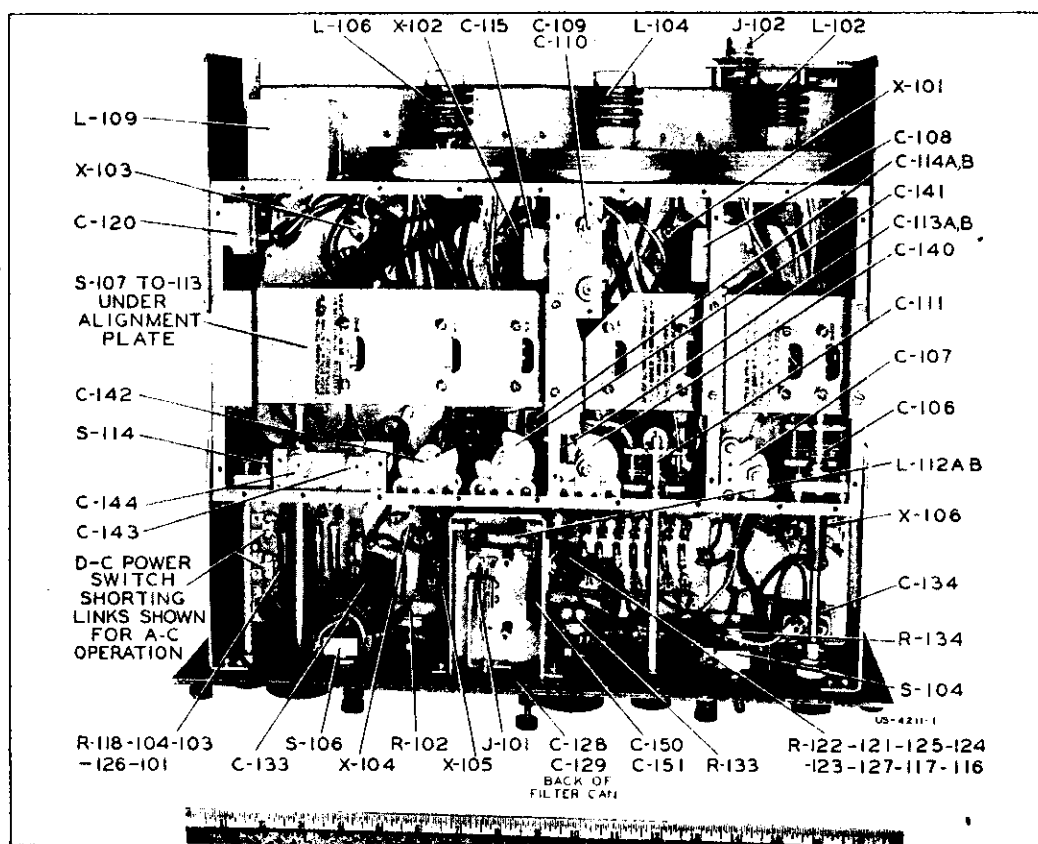

Figure 6—Receiver Unit CRV-46155 (Bottom View of Chassis—Covers Removed)
9.4-8 Normally, the a-c power is controlled either from the control unit or the power unit. In addition, a d-c power "On-Off" switch is provided on the receiver panel for use only in the event the receiver in an emergency is operated on batteries. *If this switch is opened when the receiver is normally operated on a.c., the load is removed from the power unit and overloading and damage of certain of its parts may result.* For this reason, shorting links are provided behind the panel (see Figure 6) which permanently close this switch circuit. If it is desired in an emergency to operate the receiver on batteries, these links should be opened.
- 9 7-2 A filter assembly connected to the output jack J101 and consisting of coils L112A and L112B and by-pass capacitors C150 and C151 eliminates signal pick-up on the phone leads. The shield around the phone jack prevents direct radiation from the jack itself. See Figure 6.
- 10.1-17 "D.C. POWER OFF-ON" Switch: This switch is not used in the normal operation of this equipment and is accordingly wired out of the circuit by short-circuiting links located under the chassis (see Figure 6).
NOTE: HOWEVER, SHOULD OCCASION ARISE, THIS EQUIPMENT MAY BE OPERATED FROM A BATTERY SUPPLY CONSISTING OF SUITABLE FILAMENT AND PLATE BATTERIES. THIS METHOD OF OPERATION WILL REQUIRE OPENING OF THE SHORT-CIRCUITING LINKS (SEE FIGURES 6 AND 19) AND CONNECTION OF CABLE W-201, AS INDICATED BY THE DOTTED LINES IN FIGURE 15. OPERATION OF THE RECEIVER WILL THEN BE CONTROLLED BY THE "DC POWER" SWITCH ON THE FRONT PANEL.